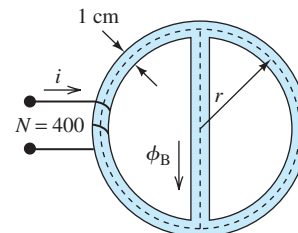

FIGURE P12.21 Magnetic circuit with two loops.
12.21 (H)* If $i = 10$ A and $\mu_r = 2000$, find the flux, ϕ_B , for the circuit shown in Figure P12.21. The depth of the core is 1 cm and the radius, r , is 4 cm. Assume a square-shaped cross-sectional area.